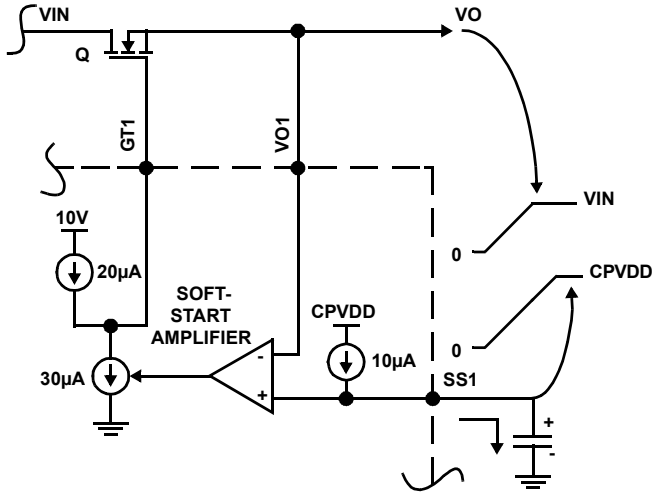

FIGURE 14. SOFT-START OPERATION
The output voltages are monitored through the Vo pins and slew up at a rate determined by the capacitors on the Soft-start (SS) pin, as illustrated in Figure 14. 20µA of gate charge current is available. The soft-start amplifier controls the output voltage by robbing some of the gate charge current thus slowing down the MOSFET enhancement. When the load voltage reaches its set level, as sensed by its respective UV pin through an external resistor divider, the Power Good (PG) output goes active, signaling that the output voltage has reached its set limit.